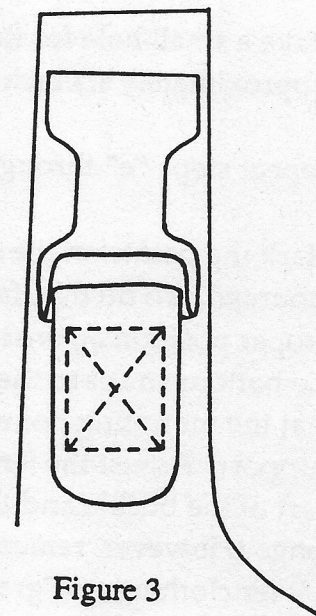

Figure 3
- c. Sew the dacron (doubled thickness) to one of the Custom Trunk Support straps, positioning the female buckle portion so that 1/2-inch of leather is extending beyond the top edge of the buckle. (See Figure 3)